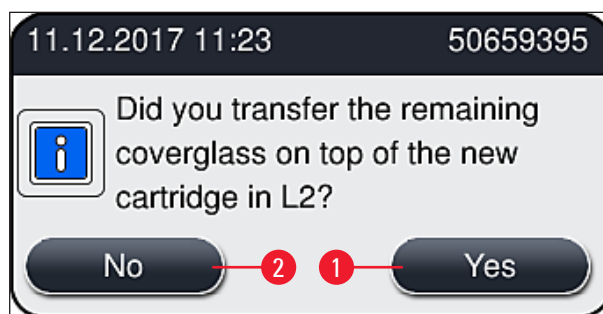

Fig. 64
8. After closing the hood, the user is questioned as to whether the remaining coverglass have been inserted into the new coverglass cartridge (→ Fig. 64). If this is the case, acknowledge the information message with **Yes** (→ Fig. 64-1). If no coverglass have been inserted, acknowledge the information message with **No** (→ Fig. 64-2).